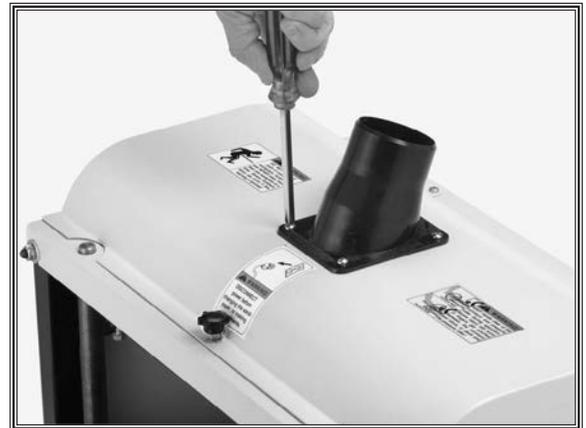

Figure 8. Dust port installation.
2. Place the 2 1/2" dust port over the top cover mounting holes and secure with the Phillips head screws removed in **Step 1**, as shown in **Figure 8**.